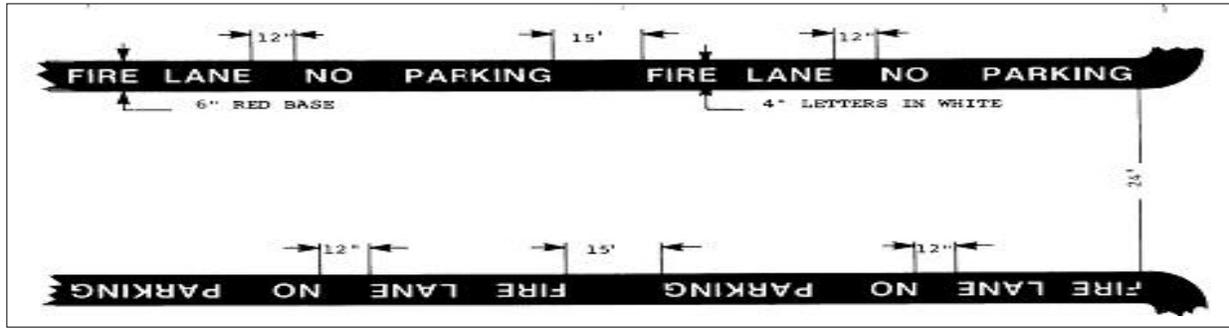

Figure 1: Fire Lane Diagram and Measurements
6. Each site shall have at least two (2) means of ingress and egress for fire accessibility.
9. "FIRE LANE NO PARKING" to be painted the entire length of the fire lane within the 6-inch red stripe with 4-inch lettering. (Please see Figure 1: Fire Lane Diagram and Measurement below)